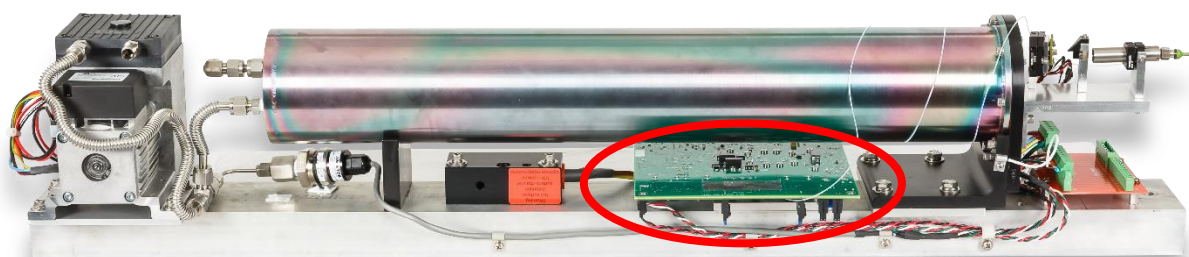

Figure 57: Location of the Main Laser Board
7. Trace the wires from the detector to the main laser board shown in Figure 57.